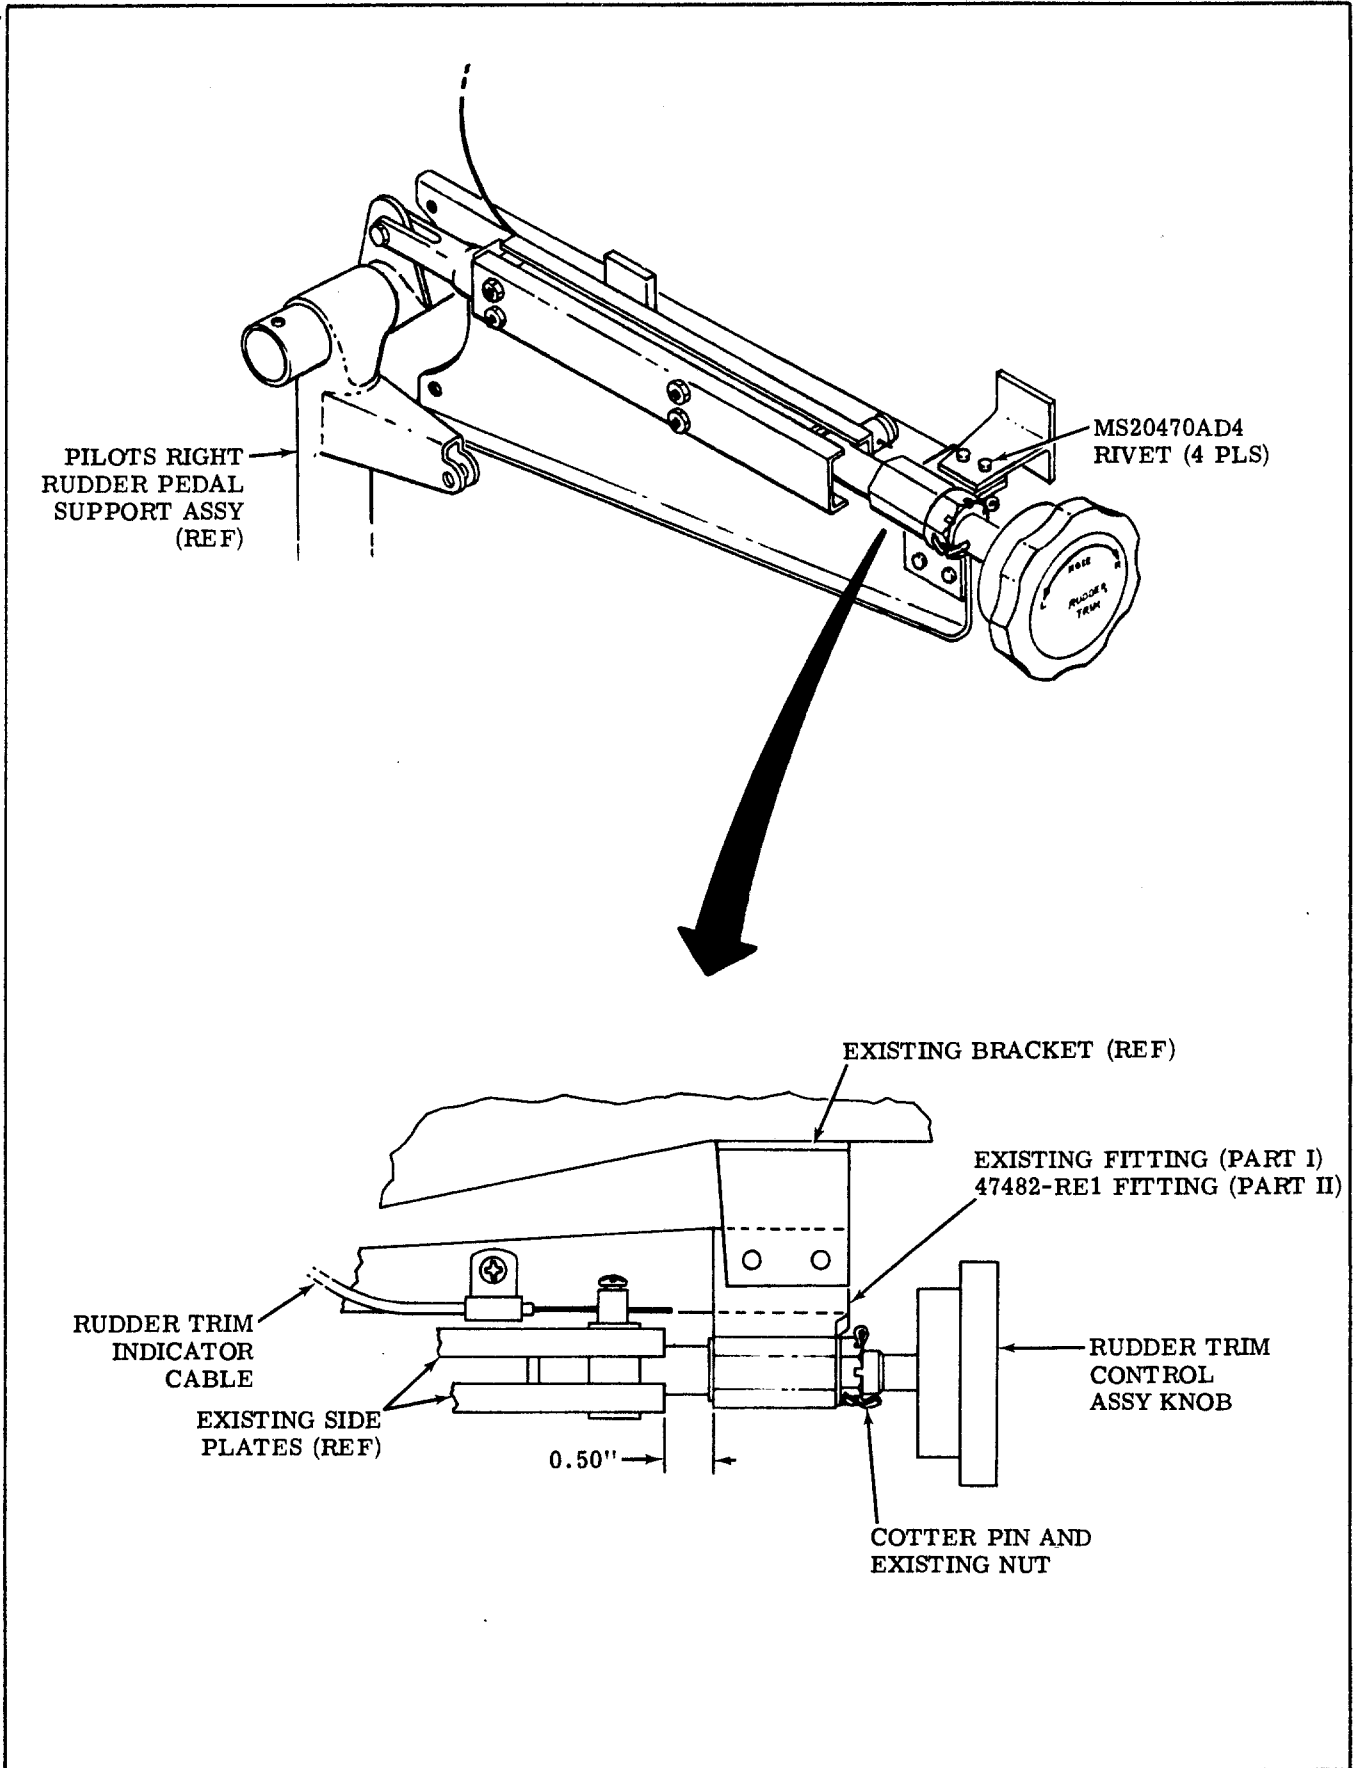

Figure 1.
10. Turn rudder trim control assembly knob counterclockwise until stop is contacted and then turn control knob clockwise exactly six (6) complete turns and clamp a stiff straight edge to pilot's rudder pedals.
11. Position 47482-RE1 fitting on rudder trim control assembly shaft to 0.50 (\pm 0.03) inch dimension shown in Figure 1. and clamp fitting to rudder trim control assembly bracket.
12. Drill and install 47482-RE1 fitting on rudder trim control assembly bracket with MS20470AD4 rivets (4 places) (see Figure 1.).